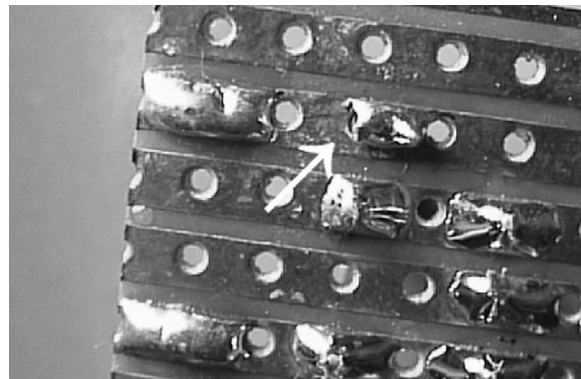

FIGURE 22.16
**Inspecting:** Use a hand lens to examine the joint. If there is not enough solder, or if the joint is ‘dry’ (Figure 22.16, arrowed), repeat the soldering. A ‘dry’ joint is often the result of not having the iron hot enough, or trying to solder on to a greasy surface.